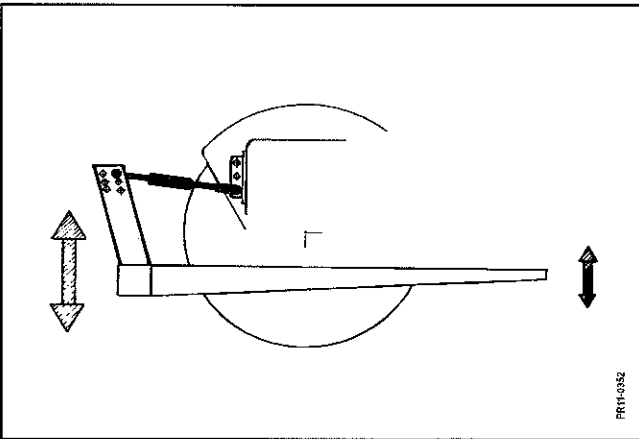

Fig.16
**Fig. 16** If you drive with several trailers so that the precision chopper must be disconnected and reconnected for every load it is an advantage if the lift frame gives large movement up and down at the rear and little movement at the front. This will make it easier to “catch” the precision chopper from the ground without the trailer touching the ground. The large movement at the rear is obtained by mounting the top link low on the trailer and high up on the lift suspension.